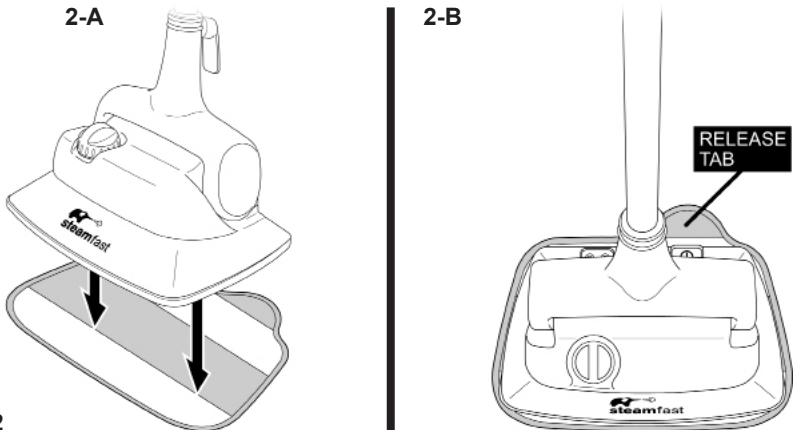

FIGURE 2
2. Align Mop Head above Microfiber Pad. Make sure Mop is oriented with Pad as shown, and centered as best as possible (FIGURE 2-A).
3. Press Mop Head firmly down onto Microfiber Pad. Fastener strips will adhere to Pad Grips on underside of Mop. Pad should now be attached and ready for use (FIGURE 2-B).